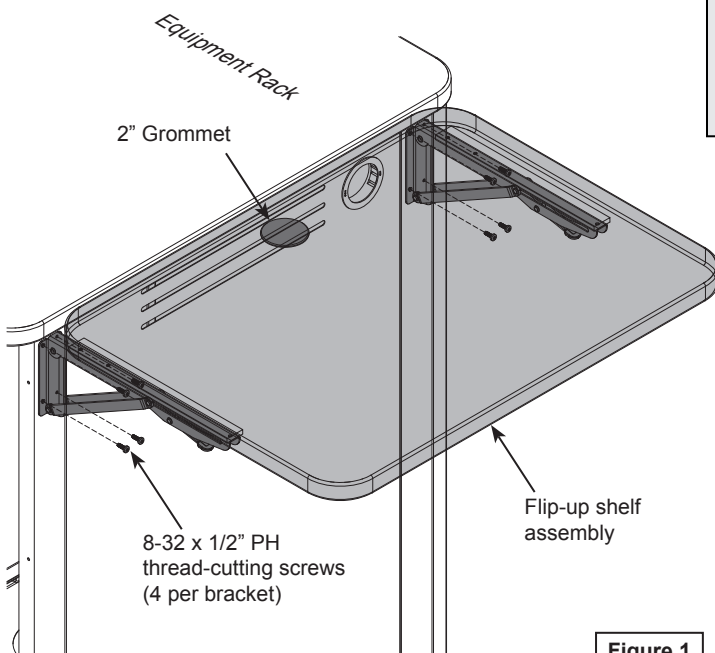

Figure 1
2. Extend each shelf bracket by depressing the release lever and lifting until it locks into the 90° position. **Figure 1.**
3. Using a second person to support the shelf, install the (8) 8-32 x 1/2" PH thread-cutting screws into the side panel. Do not tighten until all screws have been installed.